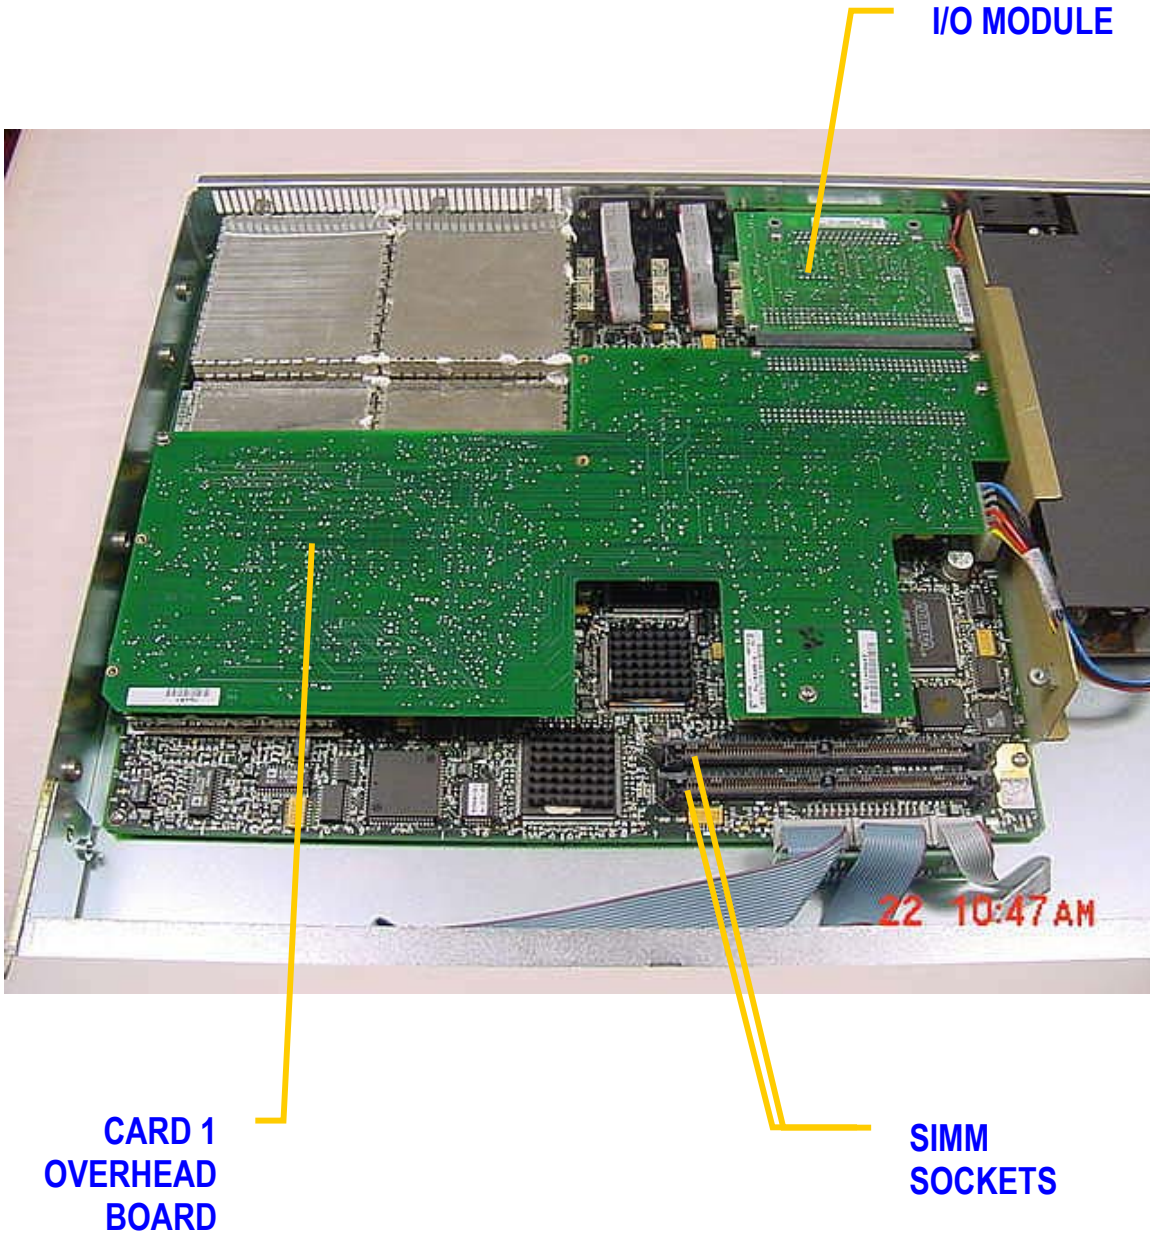

Figure 2
*3) **Card 1 Removal, refer to Figure 2. If unit has top board (Card 1 – Overhead board)**, remove the (4) rear panel screws around the 50-Pin I/O switch module. Unplug the I/O module, then Remove the (7) mounting screws holding the Overhead board and carefully lift it off.
4) **Reed-Solomon removal, refer to Figure 2. Remove all Reed-Solomon Boards if installed**, from the SIMM sockets by pushing the spring clips outward while rocking the board vertically, then lift out.